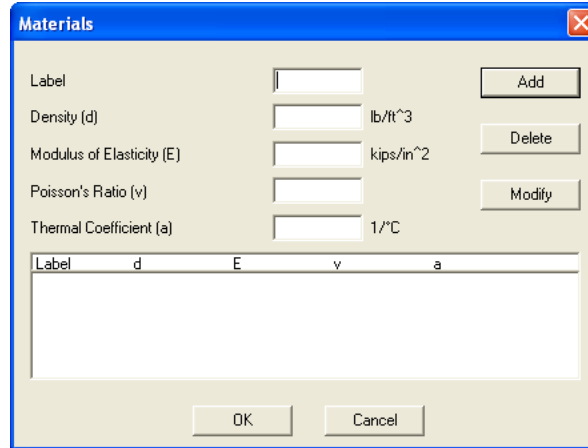

Figure 3-13 Materials dialog box
- From the **Define** menu, select **Materials**. The dialog box of Figure 3-13 appears.
- Enter the material density (d), modulus of elasticity (E), Poisson's ratio (v), and thermal coefficient (a), in the corresponding text boxes.